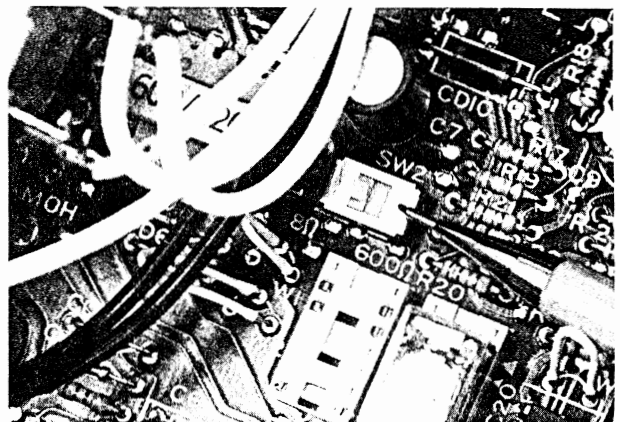

FIGURE 29
11.42 The 8-ohm output impedance must be selected with the SW2 switch on the MTOU (Figure 29). The switch must be on the side labeled "8".
11.52 Determine which output impedance is most suitable for the amplifier being used, and make the selection with the SW2 switch on the MTOU (Figure 29).